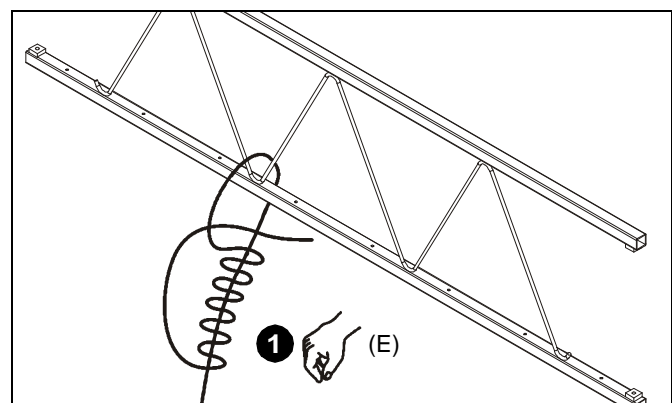

Figure 9
1. Route end of support wire (E) over truss at marked wire anchor support location. Twist wire tightly around itself at least four complete turns, and then thread loose end between truss and first turn. (See Figure 9) Repeat for three remaining support locations.